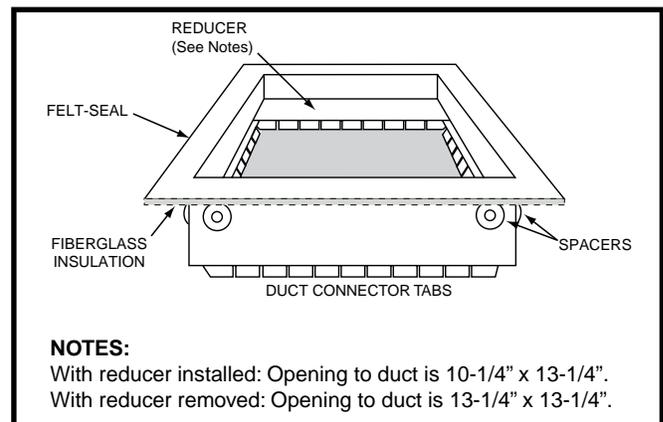

Figure 8. Duct Connector
- This furnace is certified for use on wood flooring or supports, but must not be installed directly on carpeting, tile, or any combustible material other than wood flooring. **NOTE:** The furnace may be installed on combustible flooring when installed on a Nordyne duct connector (Figure 8). This factory supplied accessory must be installed in the floor cavity and attached to the supply air duct before the downflow furnace is installed.